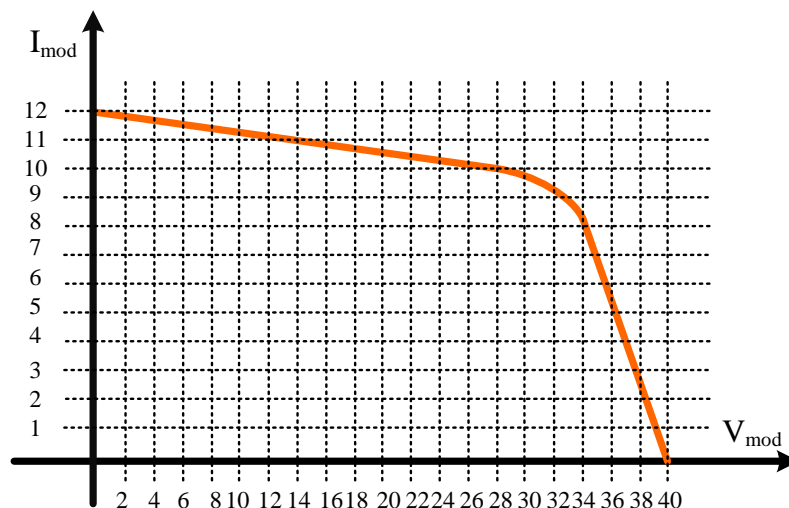

Fig. 1: IV characteristic of a PV module
- (2) The IV characteristic of a PV module is provided in Fig. 1. Find the following: